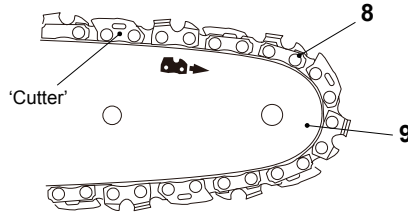

Fig. 2
3. Spread the saw chain (8) out with the cutting edges of the chain pointing in the direction of rotation. Slide the saw chain (8) into the groove around the guide bar (9). Ensure saw chain (8) is installed in correct direction of rotation (Fig. 2).